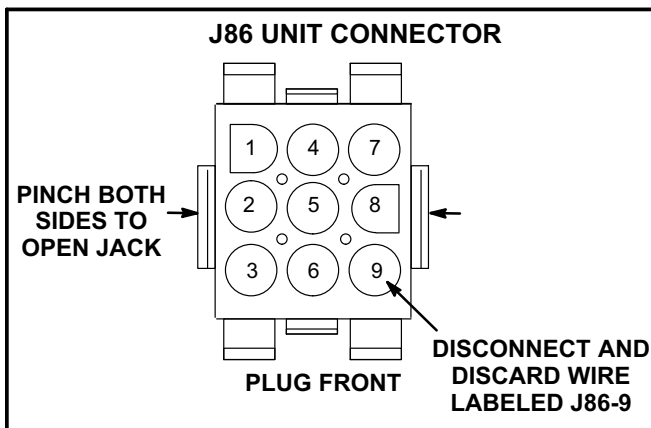

FIGURE 6
- 4- Disconnect unit jack J86 from plug P86. Pinch both sides to open jack J86. Remove and discard the wire marked J86-9 from J86 jack. See figure 6.